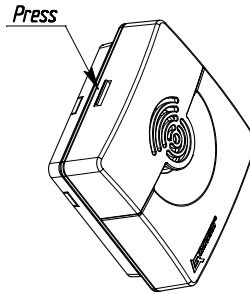

Figure 7
- place the case and protective cover into position. For cover installation carefully press at the place pointed at Figure 7.